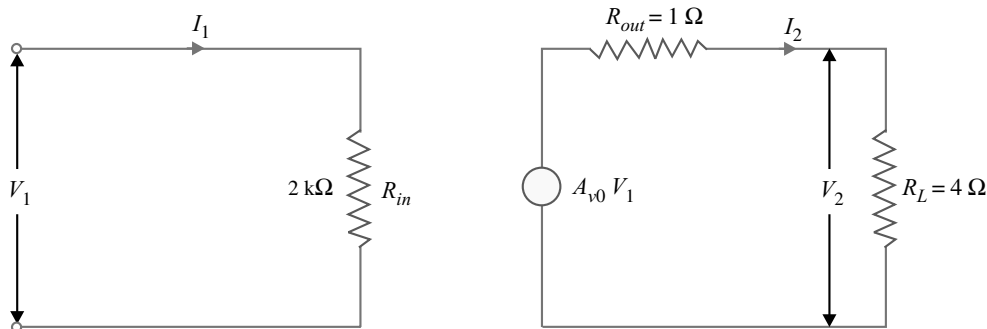

Fig. 8.55
**Solution.** Fig. 8.55 shows the equivalent circuit of the amplifier. Here  $A_{v0} = 1000$ .